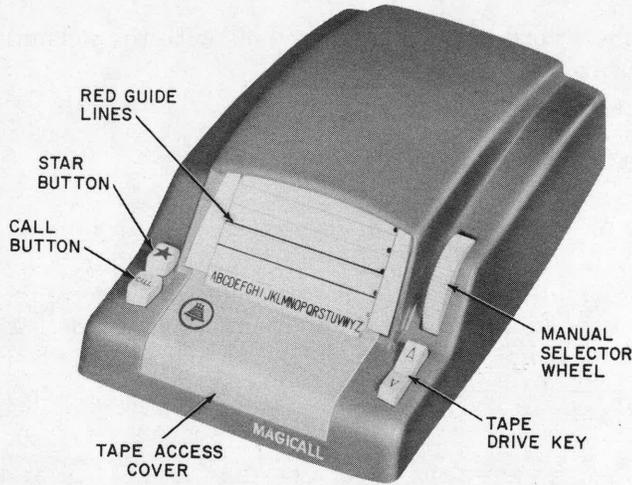

Fig. 2 — KS-19594, List 1 Dialer Unit
2.02 The KS-19594, List 1 dialer unit (Fig. 2) contains the record-reproduce and scanning mechanism, and a tape cartridge.
- (1) Raise the access cover on the front of the dialer (Fig. 2).
- (2) Raise the front end of the dialer.
- (3) Press firmly on the release bar which rests on the top of the tape to cause the cartridge to snap out of the bottom of the dialer.
- (4) Pull the tape cartridge forward to clear the hinges.